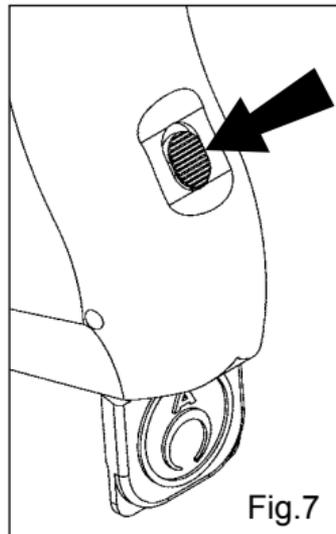

Fig.7
- push the grip release button on the rear side(Fig.7)